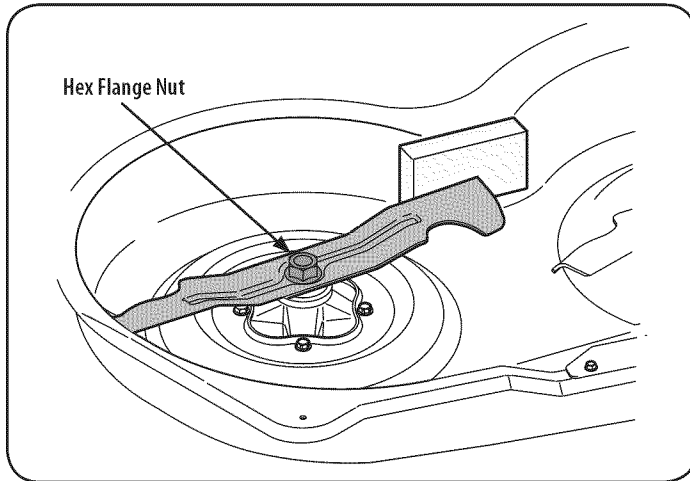

Figure 21
2. Place a block of wood between the center deck housing baffle and the cutting blade to act as a stabilizer. See Figure 21.